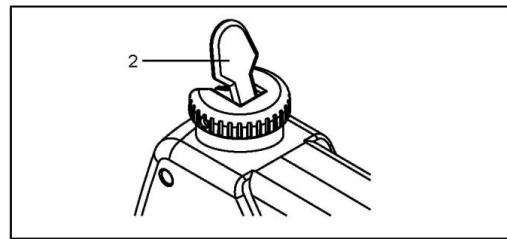

Fig. 12
1. To remove the blade, loosen the blade tension by lifting the quick tension release lever (2). (Fig. 12)
1. To remove the blade, loosen the tension by lifting up the quick tension release lever (2). (Fig. 12)